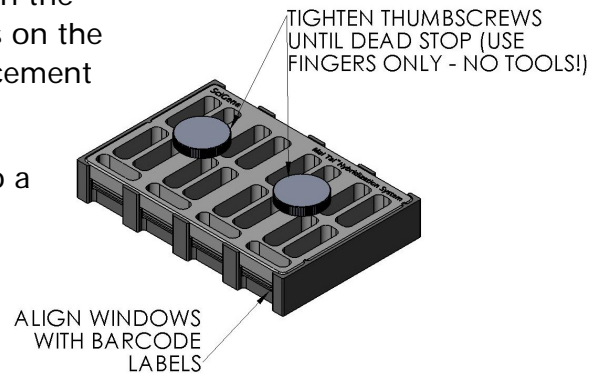

FIGURE 7
- Place the cover plate over the arrays with the barcode window matching the barcodes on the array. See Figure 7 showing correct placement and orientation of the cover plate.